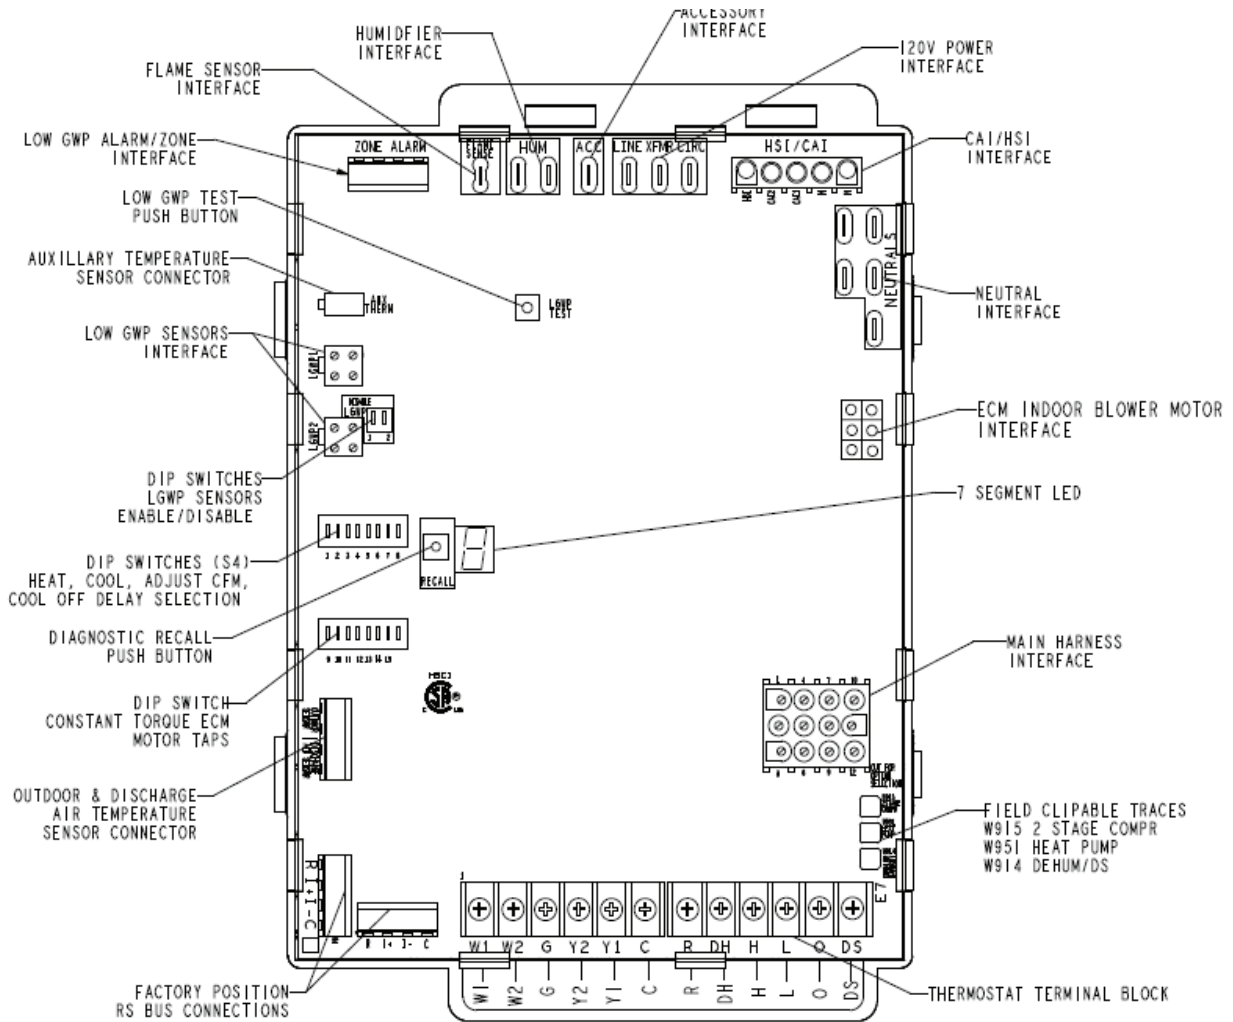

FIGURE 24
- 7 - One line voltage "ACC" 1/4" spade terminal is provided on the furnace integrated control. Any electronic air cleaner or other accessory rated up to one amp can be connected to this terminal with the neutral leg of the circuit being connected to the one of the provided neutral terminals. See FIGURE 24 for control configuration. This terminal is energized when the indoor blower is operating.
Diagnostic LED (FIGURE 24)
Diagnostic Push Button (FIGURE 24)